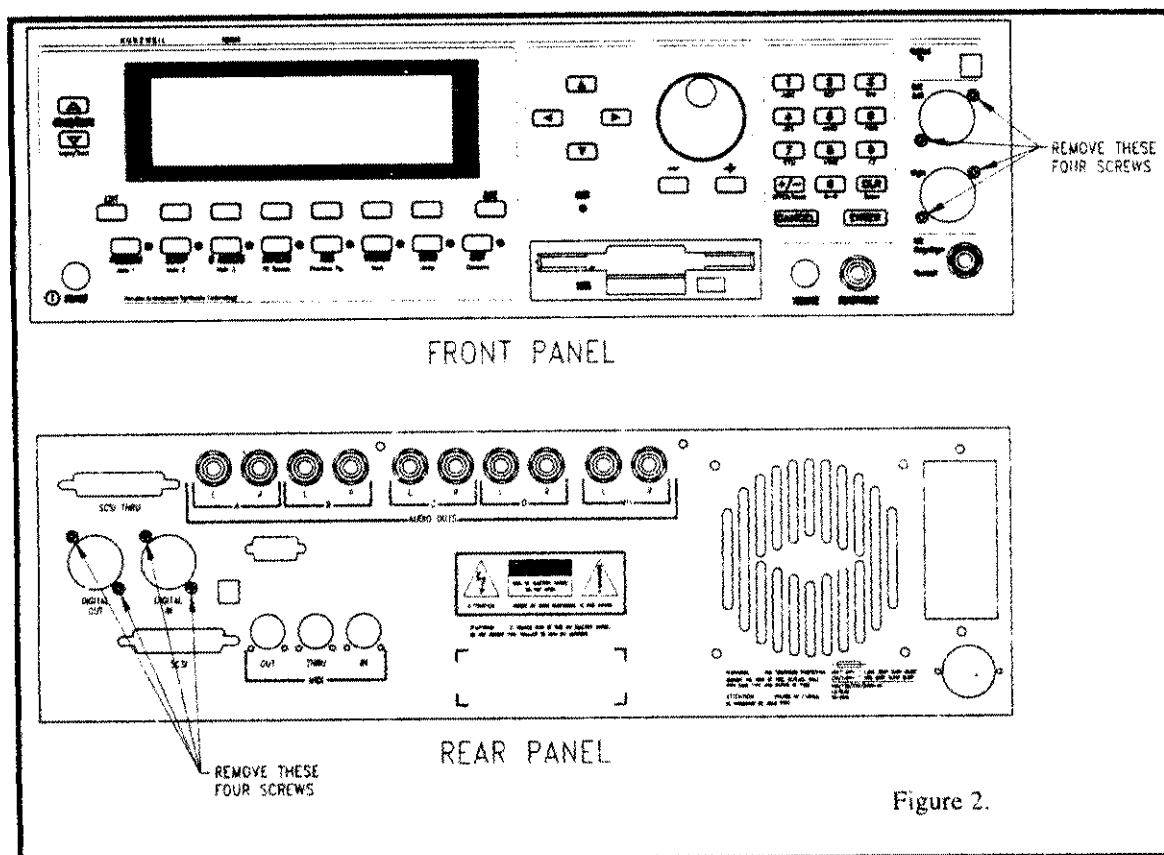

Figure 2.
1. See Figure 2. Remove the plate behind the front panel sampling option holes by removing the four screws shown in the figure. The plate should then fall in. Remove plate from inside of unit and discard it.
2. See Figure 2. Remove the plate behind the rear panel Digital In and Digital Out holes by removing the four screws shown in the figure. The plate should then fall in. Remove plate from inside of unit and discard it.